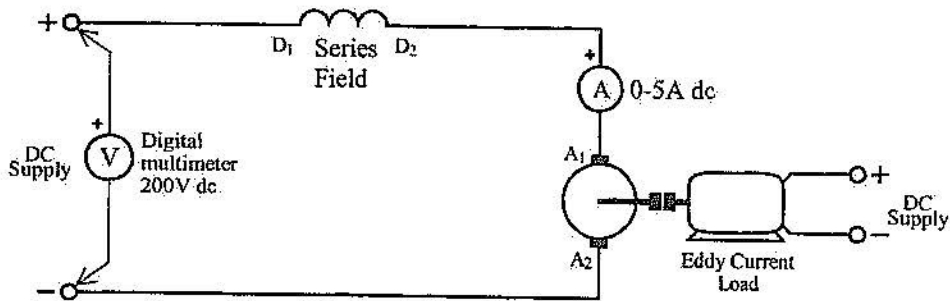

Figure 2
- Connect the series motor as shown in figure 2.